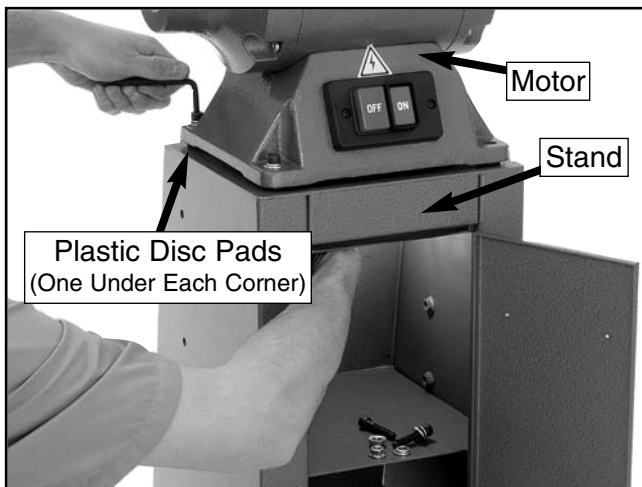

Figure 6. Attaching motor to stand.
Attach the motor to the stand with (4) M8-1.25 x 20 cap screws, (4) M8 flat washers, (4) M8 lock washers, (4) plastic disc pads and (4) M8-1.25 hex flange nuts (**Figure 6**). Note—*The plastic disc pads should be installed between the motor and the stand.*